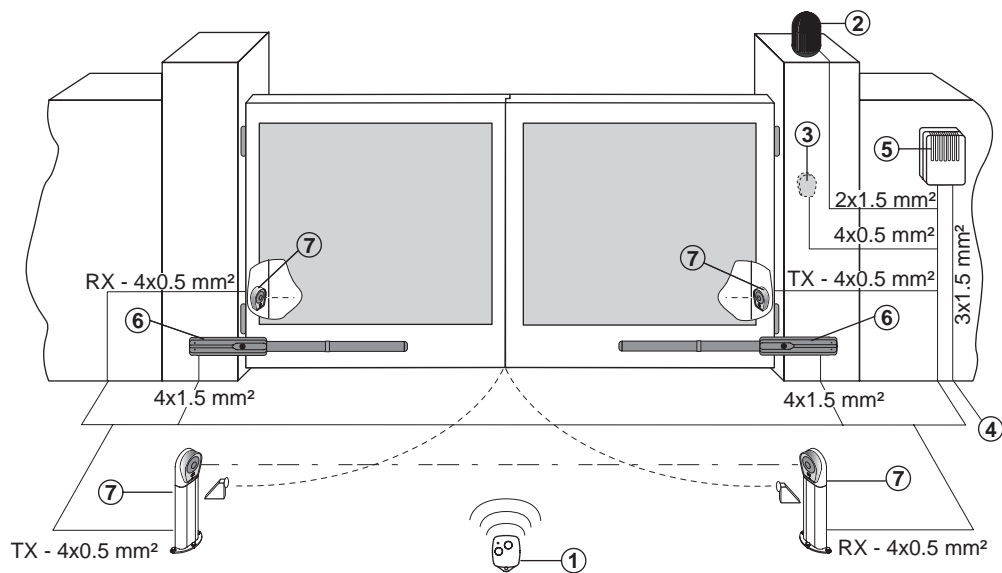

Fig. 1
2.1 Standard installation references (fig. 1)